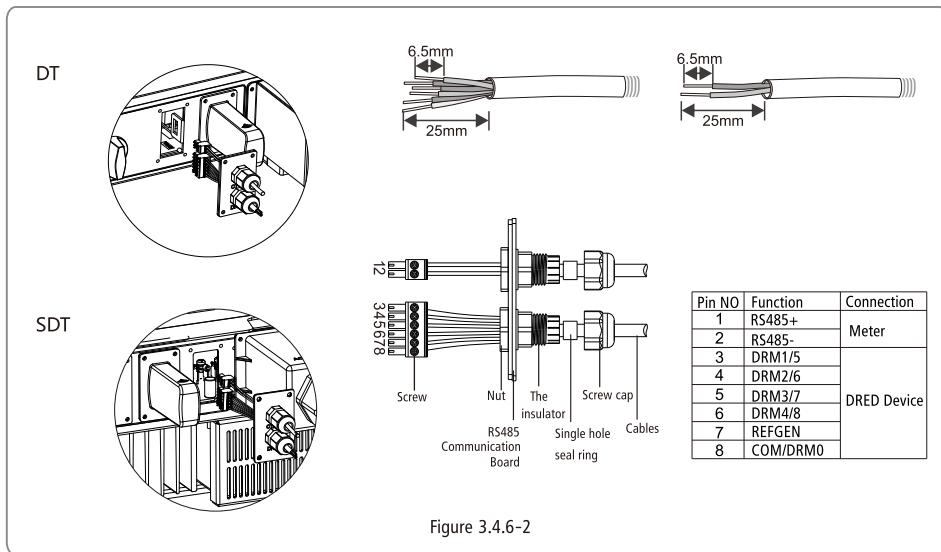

Figure 3.4.6-2
Connection method of DT series power limiting meter please refer to Figure 3.4.6-1.
- Pull out the 6-pin terminal from the socket in the cabinet and take off the resistor which is fixed in it. Cable should be connected as Figure 3.4.6-2.